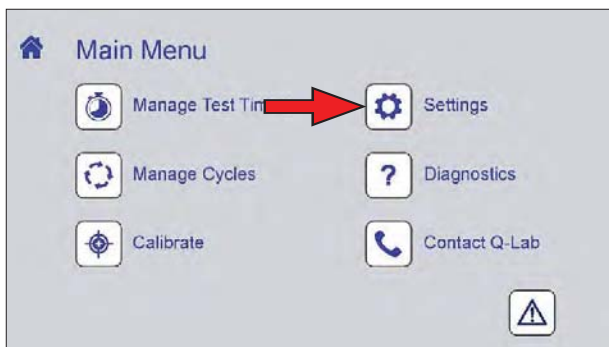

Figure 10.7a: Touch the Settings icon on the Main Menu screen to display settings controls.
- On the Main Menu screen touch the Settings icon (Figure 10.7a) to display the Settings screen.
- o A button appears in the upper right corner of the screen to toggle the remaining screen between Main Menu and Status displays (see Figure 10.7x through Figure 10.7aa).
Figure 10.7aa: Touch the Main Menu icon to display the Main Menu.